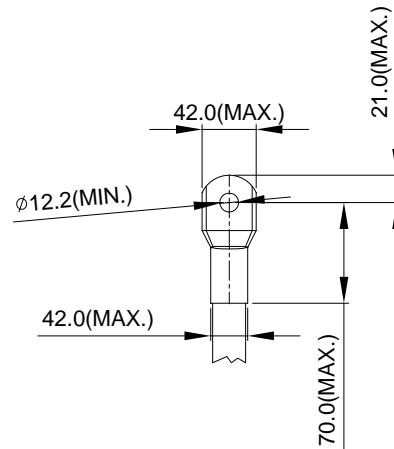

Figure 3
- Figure 3 and Figure 4 shows the specification of insulated heat shrink tubing that comply with UL (600C, YDPU2).